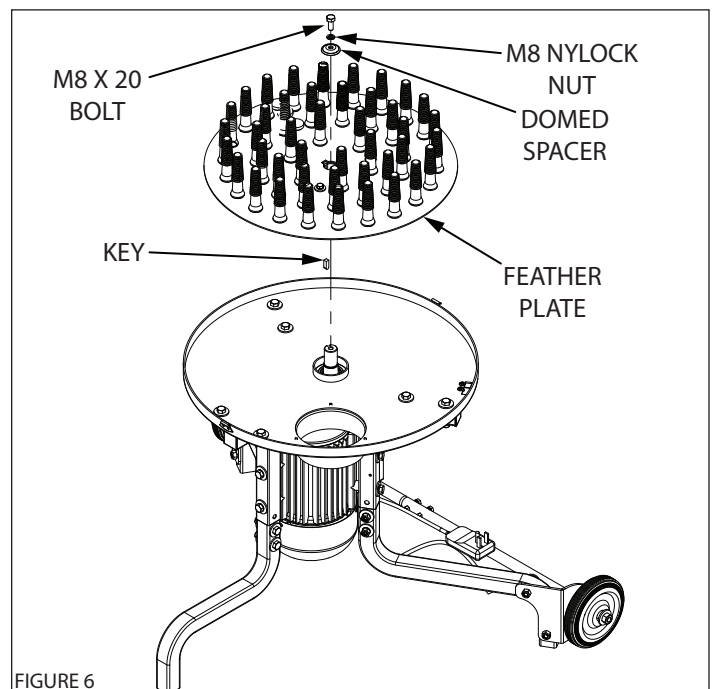

FIGURE 6
8. Insert key in output shaft. (**SEE FIGURE 6**)
10. Assemble 8mm bolt, M8 lock washer, and 8mm domed spacer over shaft. Tighten with 13mm wrench. (**SEE FIGURE 6**)